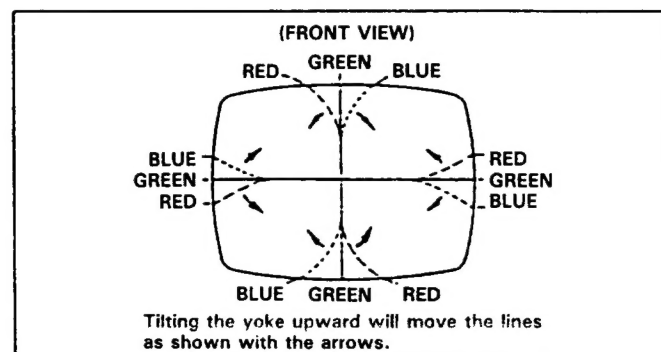

Fig. 2-10
8. Tilting the angle of the yoke up, down and sideways, adjust the yoke so as to obtain the circumference convergence. (Fig. 2-10, 2-11)